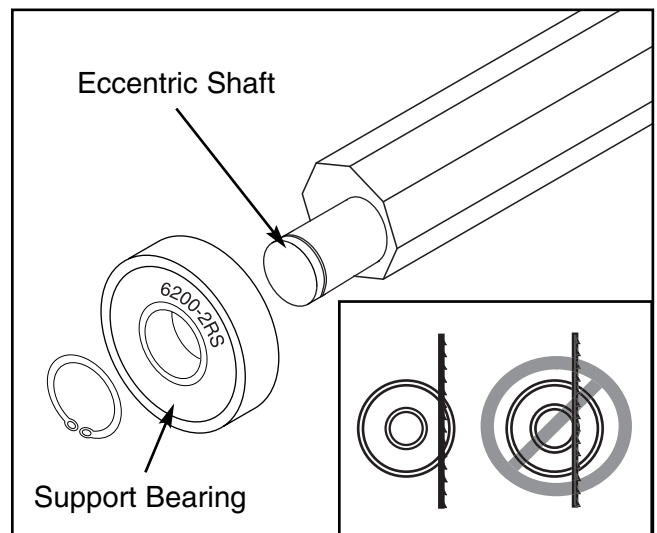

Figure 18B. Eccentric blade support.
3. Remove the support bearing shaft from the guide block assembly. Rotate the the shaft so the blade will ride off-center against the support bearing as shown in **Figure 18B**. Install the shaft, tighten the mounting setscrew and replace the adjustment cap.